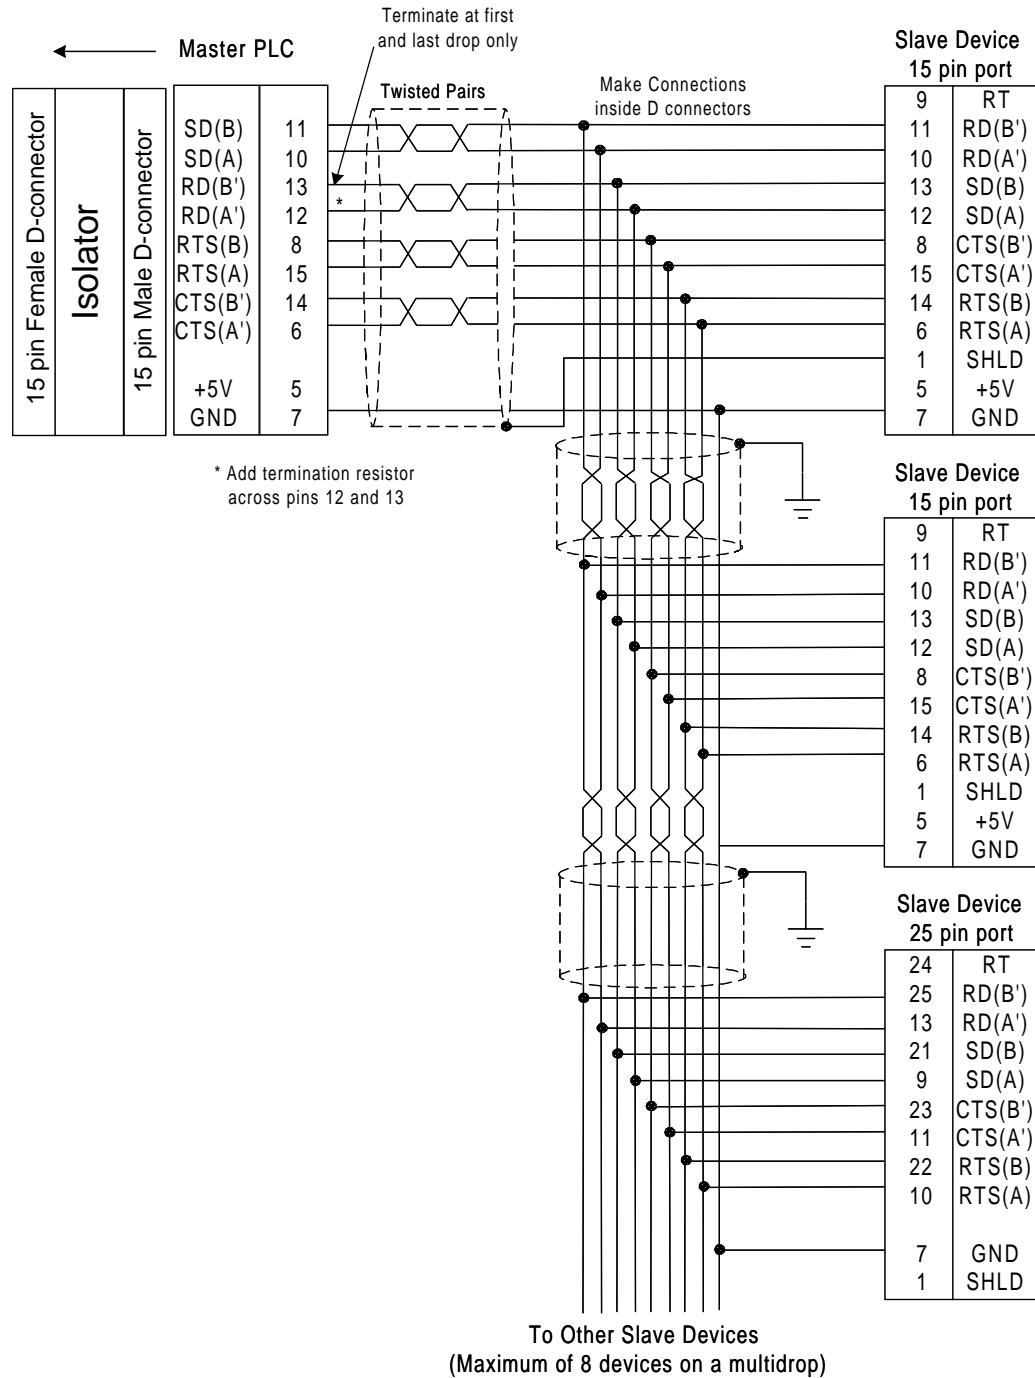
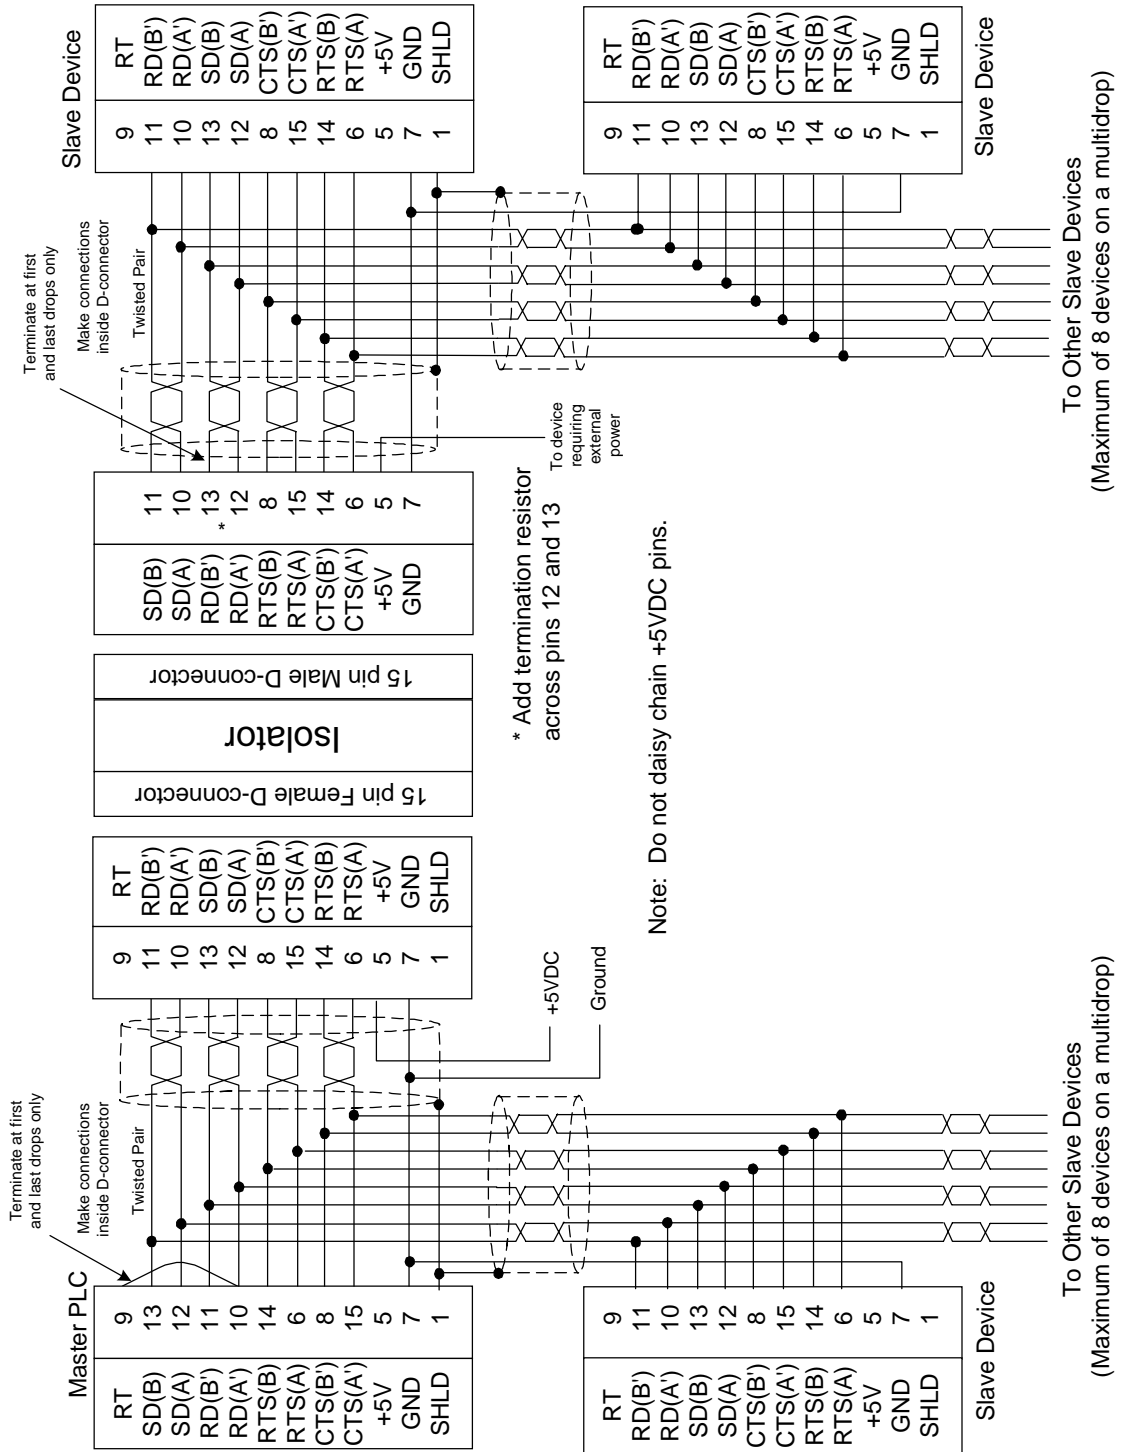

Figure 4. Multidrop Configuration Connecting Devices with 15-Pin Ports and 25-Pin Ports
Figure 5. Cable for Supplying External Power Through the Port Isolator
The RS485 Port Isolator supports both port-to-port and multi-drop configurations (Figure 4). In some cases it may be necessary to power the Port Isolator by a source other than the host port. This configuration is used to prevent an interrupt in communications if the host system requires a power cycle. It also prevents power loss to equipment using the port for power. If you wish to use an external power source, you will need to build a custom cable as shown in Figure 5.
- Errors in the “Connector Pin-Out” section and in Figures 4 and 5 were corrected.